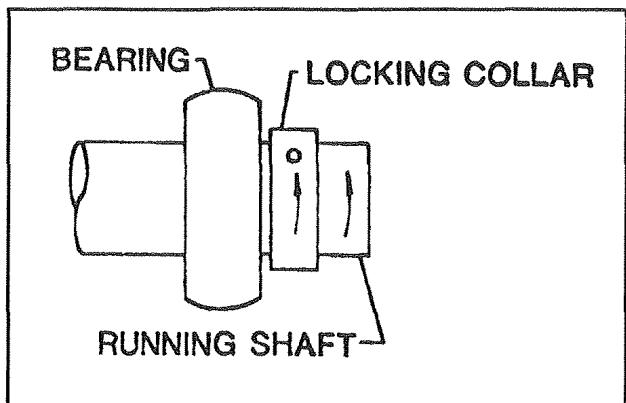

Figure 44. Locking Collar
2. Remove bearing locking collar (see Figure 44).
11. Re-install locking collar and tighten in the direction of rotation (see Figure 44).